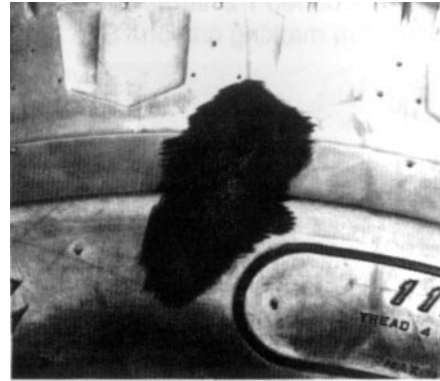

Fig. 6
5. Apply a coat of black vulcanizing cement to skive and buffed area. Let dry according to manufacturer recommendations. See Fig. 6.